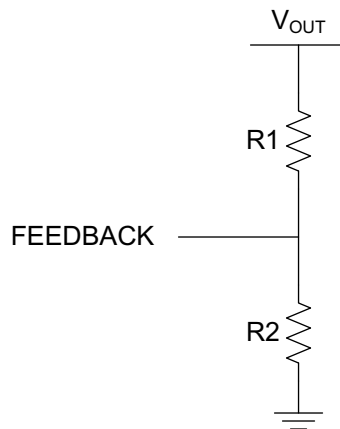

Figure 7-2. Adjusting the Feedback on the LP2951-Q1
- V_{REF} = 1.235 V applied across R2 (see Figure 7-2)